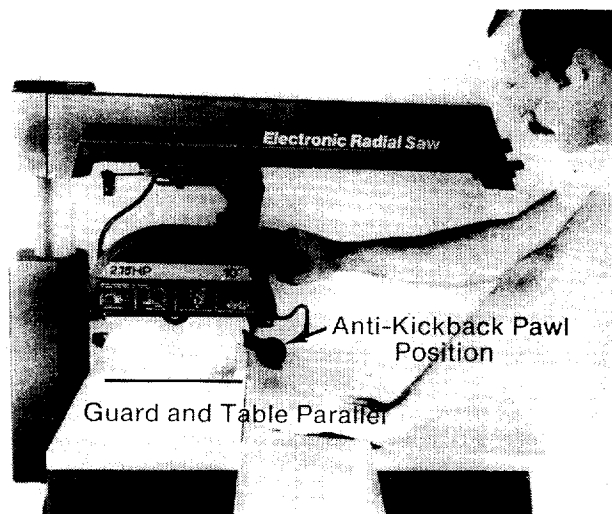

Fig. 122 - Crosscut Blade Guard and Body Position
**WARNING:** To reduce the risk of contact with the upper half of the blade and keep the workpiece from jamming in the guard, set the blade guard in the horizontal position, Fig. 122.
**⚠ WARNING:** The blade guard must be horizontal to provide protection from contact with the upper half of the blade and avoid the workpiece being jammed in the blade. Set the blade guard in the horizontal position. (Figure 122)